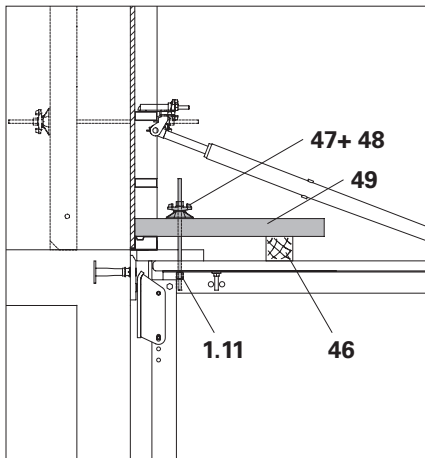

Fig. B2.04a
1. Place squared timber (46) underneath and tension the formwork element with Waler 85 (49), Tie Rod 15 (47) and Wingnut Pivot Plate DW 15 (48) against the multi-purpose connector (1:11). (Fig. B2.04a)